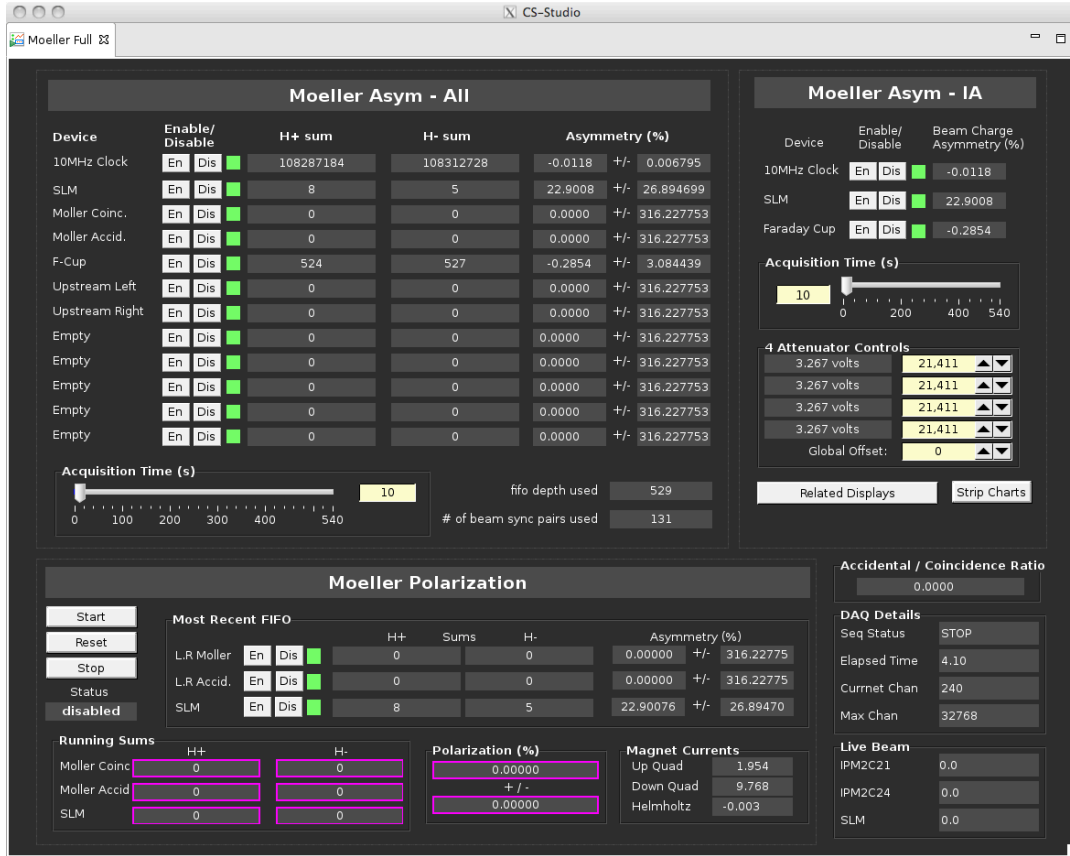

FIG. 2: The main Møller Epics expert GUI.
- (a) the “Moeller Asym - All” GUI, see Fig.2 contains all the helicity gated scalers, charge asymmetry, and the beam polarization[1]. It has several controls for the measurement and monitoring: